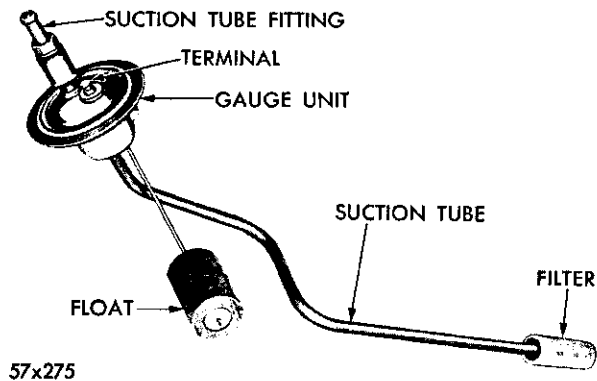

Fig. 3—Fuel Gauge Tank Unit
- (1) Drain the tank into a safety can, then disconnect the fuel line and the wire lead to the gauge unit.
- (2) Disconnect the vent tube at the nose connection at the leading edge of the tank.
- (3) Remove the nuts that hold the ends of the fuel tank hold down straps to the frame. Lower the front end of the tank far enough to disengage the filler tube from the rear panel and slide out from under the vehicle.
- (4) Remove the tank gauge unit, using spanner wrench Tool C-3582 (Fig. 3). Check the rubber grommet around the filler tube. If cracked or deteriorated, install a new grommet at reassembly.